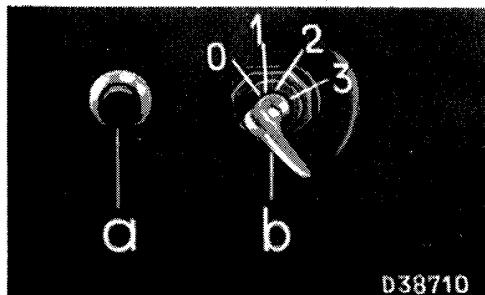

Fig. 8: a) Starter button
Position 0. (Fig. 8) Connects all circuits for day-light operation
3. In position 0 (Fig. 8) the red warning light for the dynamo lights up and also the green warning light indicating the oil pressure, (if bulbs or fuses have burnt out they should be replaced immediately).
4. In Position 0 (Fig. 8) the fuel gauge shows the level of fuel in the tank, and the thermometer shows the cooling water temperature.
Even if the key is turned these indications remain, the amount of fuel should now be checked on the fuel gauge (Fig. 8) to make sure that there is enough fuel in the tank. (If the tank was completely drained and then refilled the fuel system must be bled of air as described on page 71).
To stop the engine first move the hand throttle lever to idling speed and then pull out the engine stop knob (Fig. 12) and hold it until the engine has stopped. Push in the knob. (In case of lockable stop knob, unlock stop knob by turning 90° to the left and lock it by turning to the right.) When stopping the engine during the day the tractor key should be in "0" position, but at night, on the open road, in Position "1". The key should be withdrawn so as to leave the parking lights "on" (Fig. 8).
When the tractor key is in position the electric temperature gauge shows the temperature of the cooling water (Fig. 8).